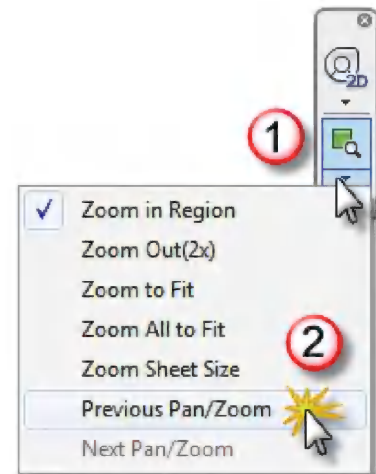

FIGURE 1-5.4 Zoom Icon drop-down
6. Click the down-arrow next to the zoom icon (Figure 1-5.4). Select **Previous Pan/Zoom**.